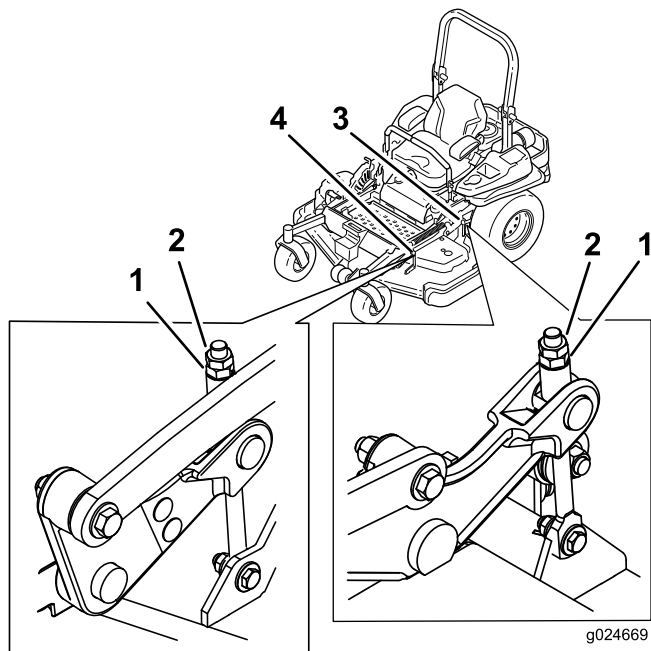

Figure 84
9. If needed, fine-tune the adjustment nut on the front deck adjustment by turning it (see Figure 84).
15. Fine tune the screw adjuster by turning it to get 8.3 mm (3-1/4 inches) height (Figure 84).